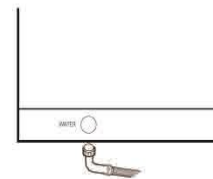

Fig. 5
- 2- Connect the solenoid valve, which feed the machine, to water shut valve, using a flexible line. (Fig.5) **Each machine must have its own water line supply.**